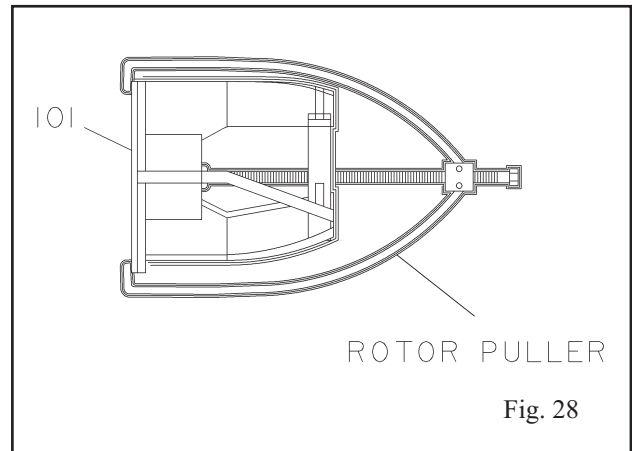

Fig. 28
3. Pry rotor (101) off shaft (182) using two bars opposite each other, placed between cover and rotor shroud. Another method of removing the rotor is using a rotor puller (Fig. 28).